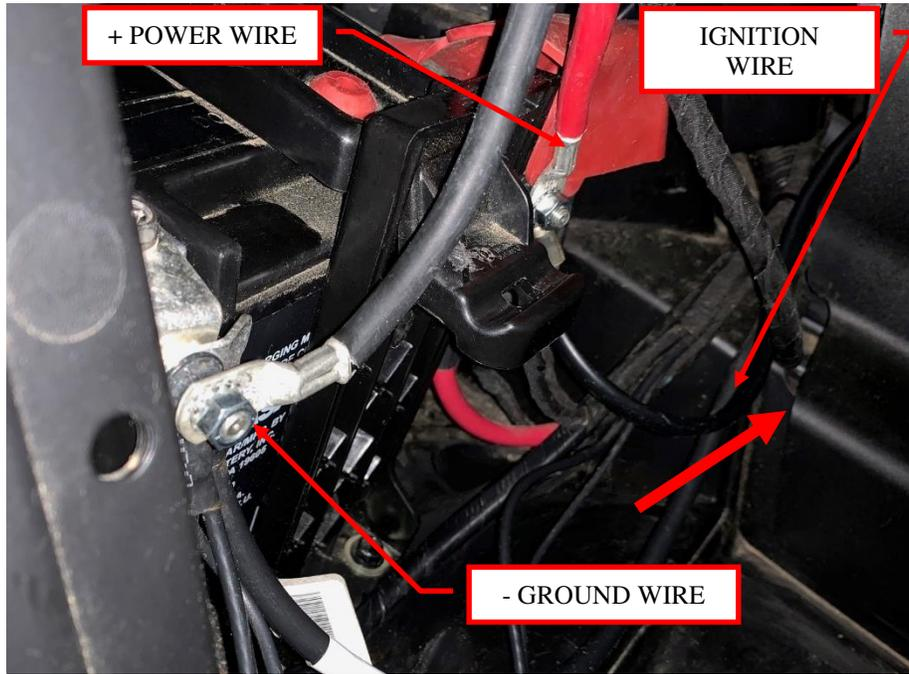

Figure 9: Attach the power wires.
8. Connect the red power wire to the positive terminal of the battery. Connect the black ground wire to the negative terminal of the battery. Use the supplied ¼" washers and M6 x 1.0 nuts to clamp the cables on top of the existing battery cables. See Figure 9.
10. Route the ignition wire from behind the rear passenger seat (near the area where you made the battery connections in Figure 9), into the opening by the rear passenger seat floor, and into the front center console. See Figure 11.